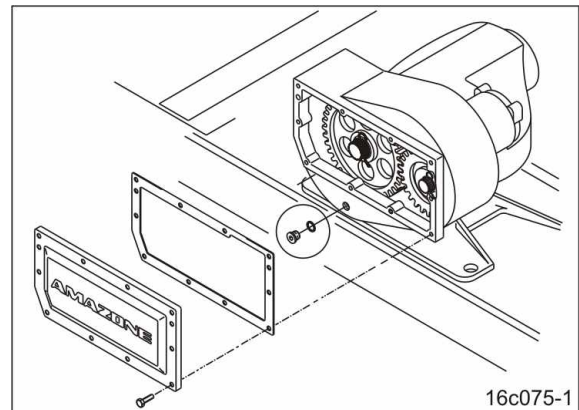

Fig. 122
7. Remove the retaining springs (Fig. 122/1).